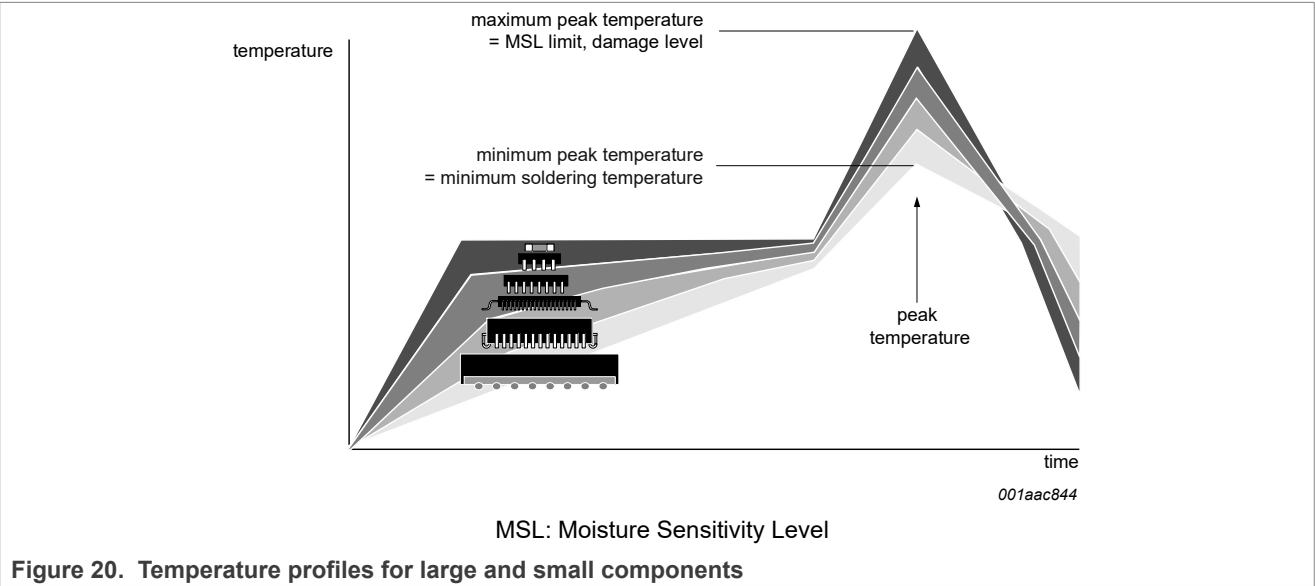

Figure 20. Temperature profiles for large and small components
- Lead-free versus SnPb soldering; note that a lead-free reflow process usually leads to higher minimum peak temperatures (see Figure 20) than a SnPb process, thus reducing the process window
Moisture sensitivity precautions, as indicated on the packing, must be respected at all times. Studies have shown that small packages reach higher temperatures during reflow soldering, see Figure 20.